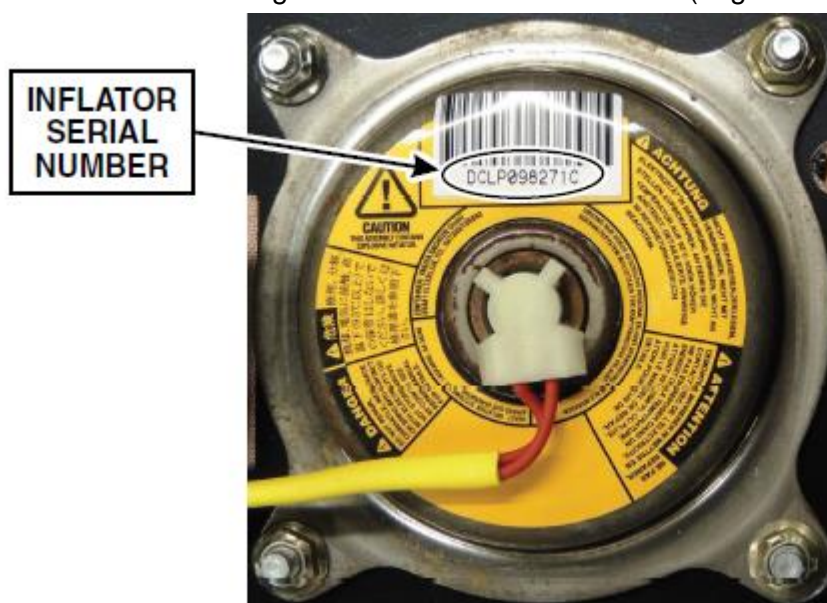

FIGURE 1
2. Document the deployed airbag inflator serial number(s) on the RO (Reference Figure 1 for the driver side and Figure 2 for the passenger side).
1. Take pictures of the undeployed airbags, the serial numbers of the undeployed airbag inflators (refer to Figures 1 and 2), and the vehicle’s VIN plate.
2. Document the airbag inflator serial number on the RO (Reference Figures 1 and 2).